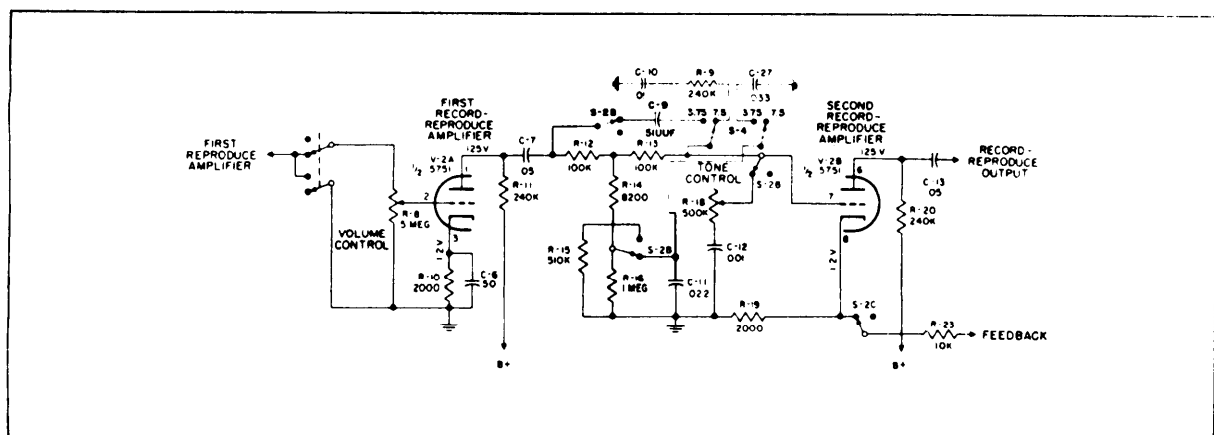

Figure 20. Amplifiers and Equalizing Network - Schematic Diagram
5.8.3.2 AMPLIFIERS AND EQUALIZING NETWORK (See figure 20.)